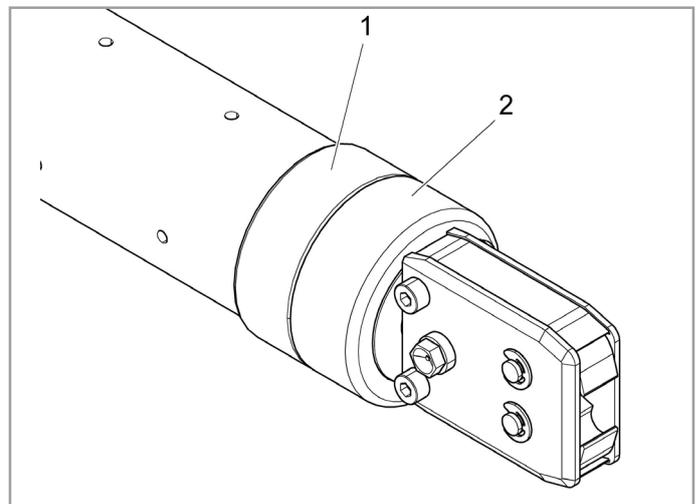
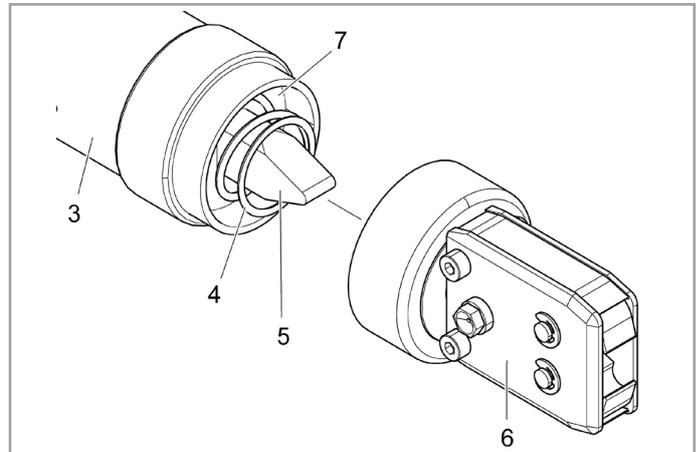
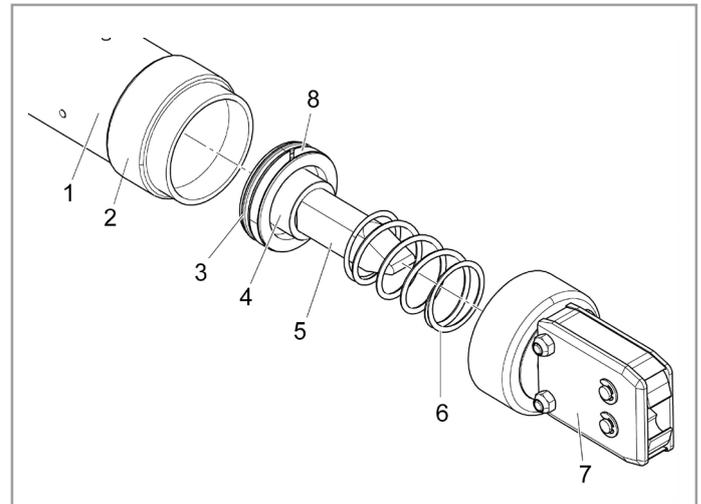

Fig. 75 Unfastening the pincer head
Fig. 76 *Separating the pincer head from the pincer body*
Fig. 81 Replacing the pincer head set
3. Loosen the lock nut (Fig. 75/1) and unscrew the union nut (Fig. 75/2).
The compression spring (Fig. 76/4) is under tension.
- ▶ Hold on to the pincer head (Fig. 76/6) as you remove it.
4. Separate the pincer head (Fig. 76/6) from the pincer body (Fig. 76/3).
The plunger (Fig. 76/5) and plunger piston (Fig. 76/7) remain in the pincer body (Fig. 76/3).
12. Screw the pincer head (Fig. 76/6) onto the pincer body (Fig. 76/3) and secure with the lock nut (Fig. 75/1).
The plunger (Fig. 76/5) must be centered between the two pincer jaws.
3. Separate the pincer head (Fig. 81/7) from the pincer body (Fig. 81/1) (see section 10.3.1, p. 10-109).
4. Remove the plunger (Fig. 81/5), plunger piston (Fig. 81/4), piston ring (Fig. 81/8), lip seal (Fig. 81/3) and compression spring (Fig. 81/6) from the piston body (Fig. 81/1).
5. Lubricate the plunger piston (Fig. 81/4), plunger (Fig. 81/5), piston ring (Fig. 81/8) and lip seal (Fig. 81/3) from the new piston head set and mount them in the piston body.
- Piston ring (Fig. 81/8) and lip seal (Fig. 81/3) with RENOLIT IPR 2, OETIKER item no. 08901485.
- Plunger (Fig. 81/5) with RENOLIT LX-EP 2 (RENOLIT Duraplex EP 2), OETIKER item no. 08901490.
- Be careful not to damage the piston ring (Fig. 81/8) and lip seal (Fig. 81/3) during installation.
7. Screw the new pincer head (Fig. 81/7) on to the pincer body (Fig. 81/1) and secure with the lock nut (Fig. 75/1).
The plunger (Fig. 81/5) must rest between the two pincer jaws.